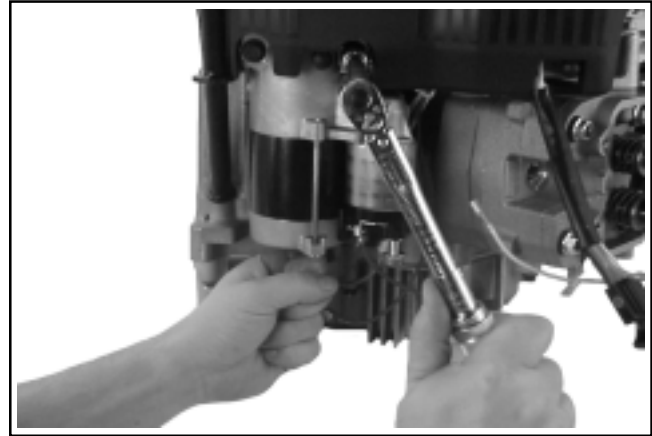

Figure 11-80. Torquing Starter Mounting Bolts.
- Slide the adjacent radiator support bracket under the heads of the starter bolts and **behind** the lifting bracket. Check that the starter is square to the crankcase, then torque the mounting bolts to **15.3 N-m (135 in. lb.)**. See Figure 11-80.